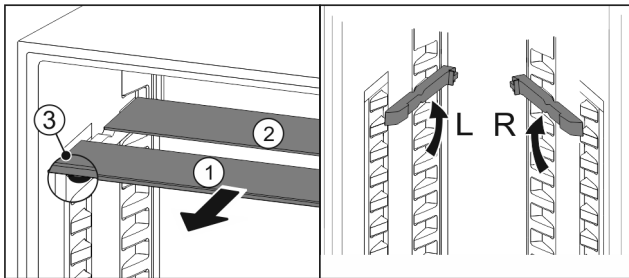

Fig. 85
- Pull the glass panels out Fig. 85 (1) from the front, one at a time.
- ▷ The glass panel Fig. 85 (1) and trim strip are at the front.
- ▷ The stops Fig. 85 (3) point down.